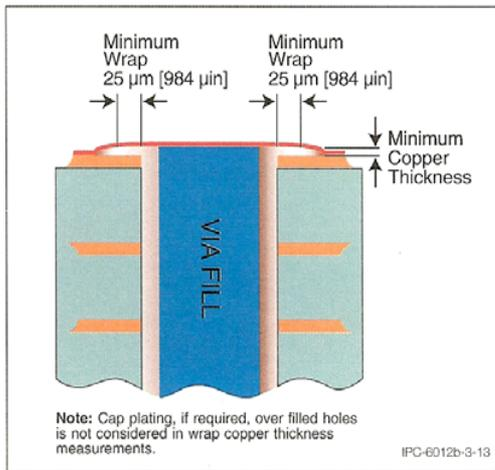
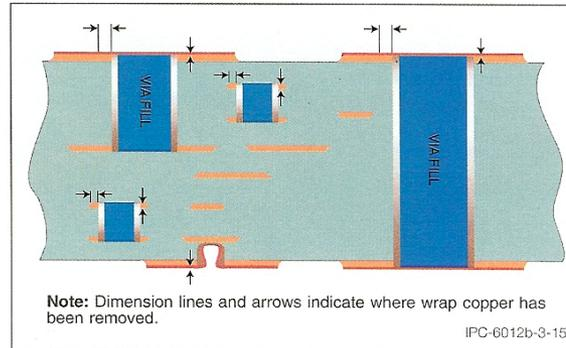

Figure 3-13 Surface Copper Wrap Measurement (Applicable to all filled plated-through holes)
Figure 3-15 Wrap Copper Removed by Excessive Sanding/Planarization (Not Acceptable)
3.6.2.11.1 Copper Wrap Plating Copper wrap plating minimum as specified in Table 3-2 shall be continuous from the filled plated hole onto the external surface of any plated structure and extend by a minimum of 25 µm [984 µin] where an annular ring is required (see Figures 3-13 and 3-14). Reduction of wrap-plating by processing (sanding, etching, planarization, etc.) resulting in insufficient wrap plating is not allowed (see Figure 3-15).
Add new Figure 3-13 as follows:
Add new Figure 3-15 as follows: